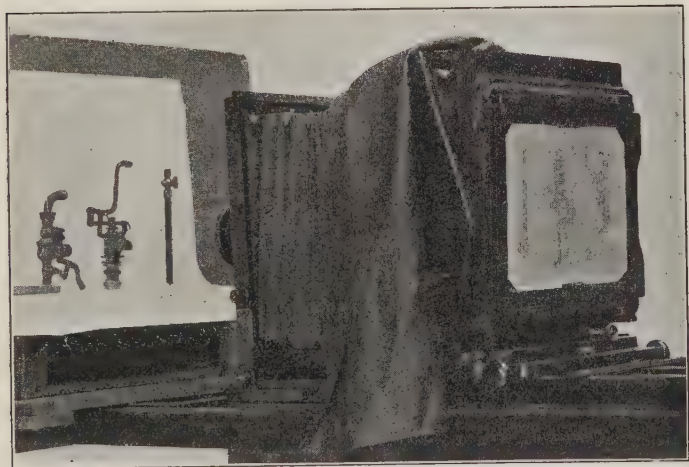

FIGURE 606. — A FOCUSED CAMERA.
**418. Case II.** — A camera is generally used to obtain small images of objects (Figure 606). These images are formed upon a sensitive plate, or film. The light focused upon the plate starts the decomposition of a silver salt and “developing” makes a permanent image upon the plate.